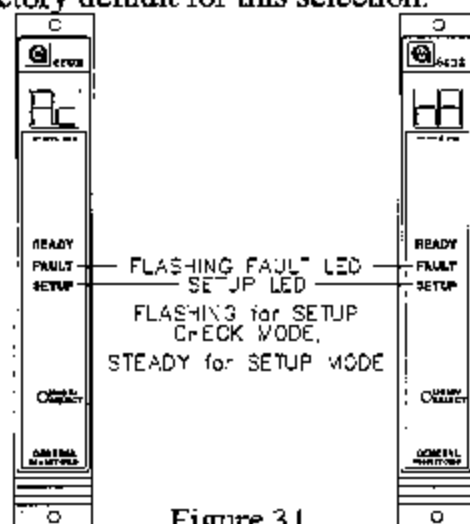

Figure 31
- Next, the user will select the Fault/Inhibit option. The **FAULT LED** on the front panel will be flashing while the display indicates **Ac** or **na** (figure 31). An **Ac** selection specifies that the Model 4802 will activate the Fault circuit while the unit is in the Inhibit Mode. An **na** selection specifies that the Model 4802 will not activate its Fault circuit when the unit is placed in the Inhibit Mode. An **na** selection will not disable the Fault circuit, therefore, if a Fault occurs during the Inhibit Mode, the unit will activate the Fault circuit. Not Active is the factory default for this selection.